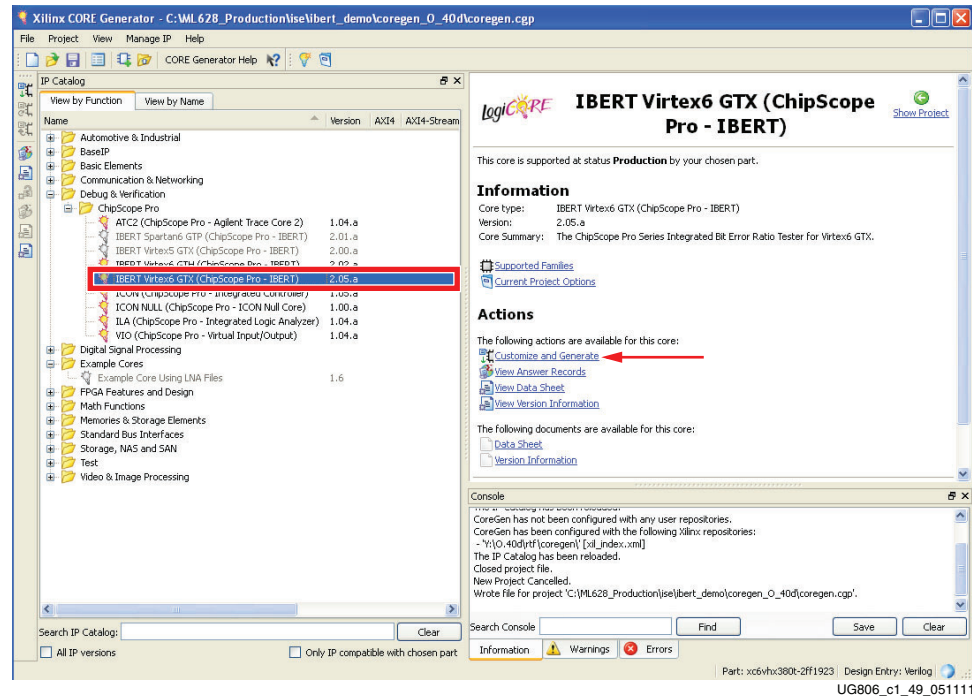

Figure 1-49: Select IBERT Core
7. In the IP Catalog pane of the CORE Generator window (Figure 1-49) select:
8. Click on the **Customize and Generate** link under the **Actions** heading (Figure 1-49)